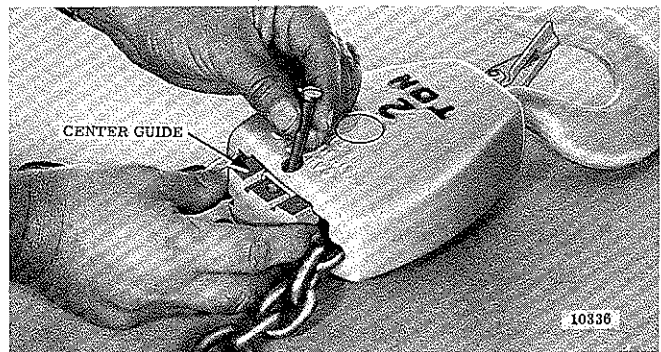

Figure 7-30. Removing Chain Center Guide from 2 and 3 Ton Lower Block Assembly (Coil Chain Model)
(1) On 2-ton roller chain models, remove retaining ring from one end of sprocket pin and press pin from lower block body. Grasp chain and pull out sprocket and two spring washers from body. Do not remove needle bearing from sprocket or pressure lube fitting from sprocket pin unless replacement is necessary.
(2) On 2-ton coil chain models, remove fillister head screw securing center guide in top of lower block body and lift out guide (Fig. 7-30) and sprocket pin lock (Fig. 7-31). Press sprocket pin from body and pull out chain, sprocket and washer (Fig. 7-32). Do not remove bushing type bearing from sprocket or pressure lube fitting from sprocket pin unless replacement is necessary.
(3) On early models, the hook nuts are welded in place by the factory. Do not attempt further disassembly of these lower block assemblies. Only complete lower block assemblies or body and hook assemblies are available for replacement.
(4) On later models (identified by a hole in the side of the block below the capacity marking), lower hooks may be removed. To disassemble, drive groove pin from hook nut with drift punch. With pin removed, hold hook nut from turning with drift punch and rotate hook to unscrew it from nut. Separate hook, nut, bearing shield, needle bearing and two thrust washers from body. Hook and nut are drilled at assembly and are replaced only as an assembly.